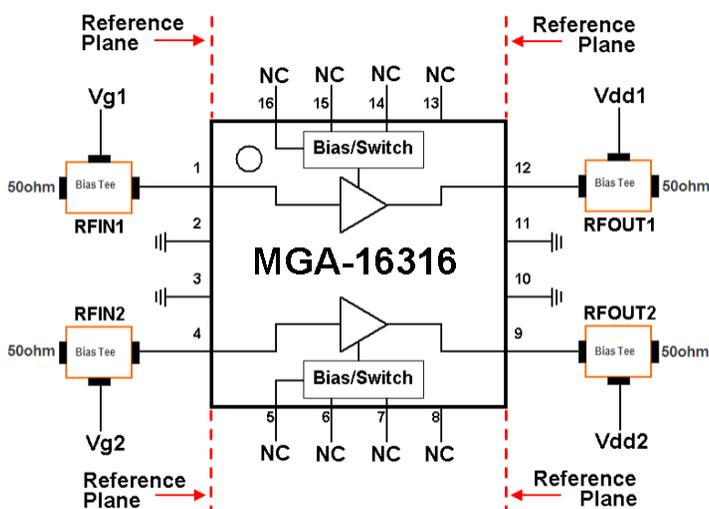

Figure 7. RFinput and RFoutput Reference Plane
2. Idd can be obtained by varying the Vg1/Vg2. Refer to figure 7.
2. Scattering and noise parameters are measured on coplanar waveguide made on 0.010 inch thick ROGER 4350. The input reference plane is at the end of the RFinput pin and the output reference plane is at the end of the RFoutput pin as shown in Figure 7.
3. Idd can be obtained by varying the Vg1/Vg2. Refer to figure 7.